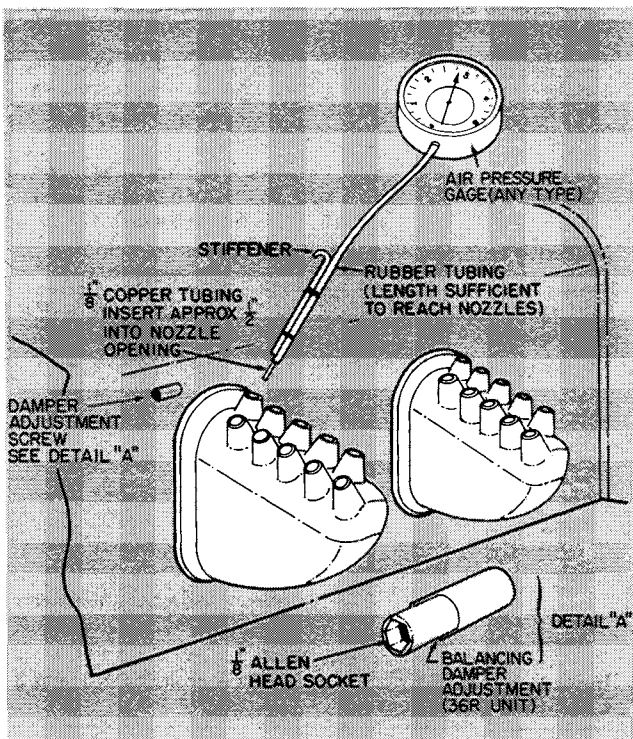

Fig. 5 — Measuring Nozzle Pressure
7. Unit operating at other than design conditions.	7. Check: primary airflow (nozzle pressure) as in Fig. 5; primary air temperature; secondary water temperature. Correct to design condition.
3. Unit operating at other design conditions.	3. Check primary airflow (nozzle pressure) as in Fig. 5; primary air temperature; secondary water temperature. Correct to design condition.